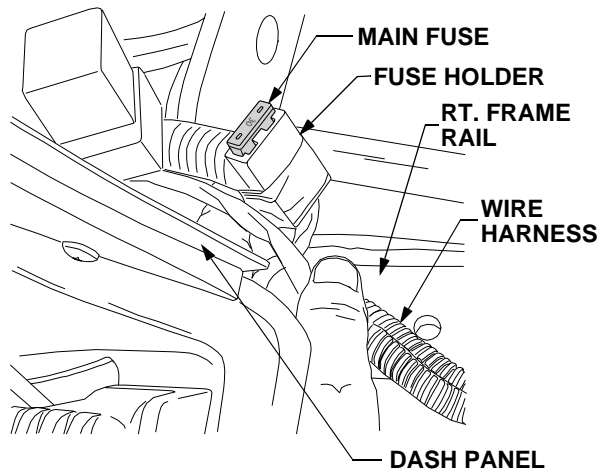

Figure 44
- Locate the main fuse under the dash panel, along the tractor's *right* frame rail. See Figure 44.